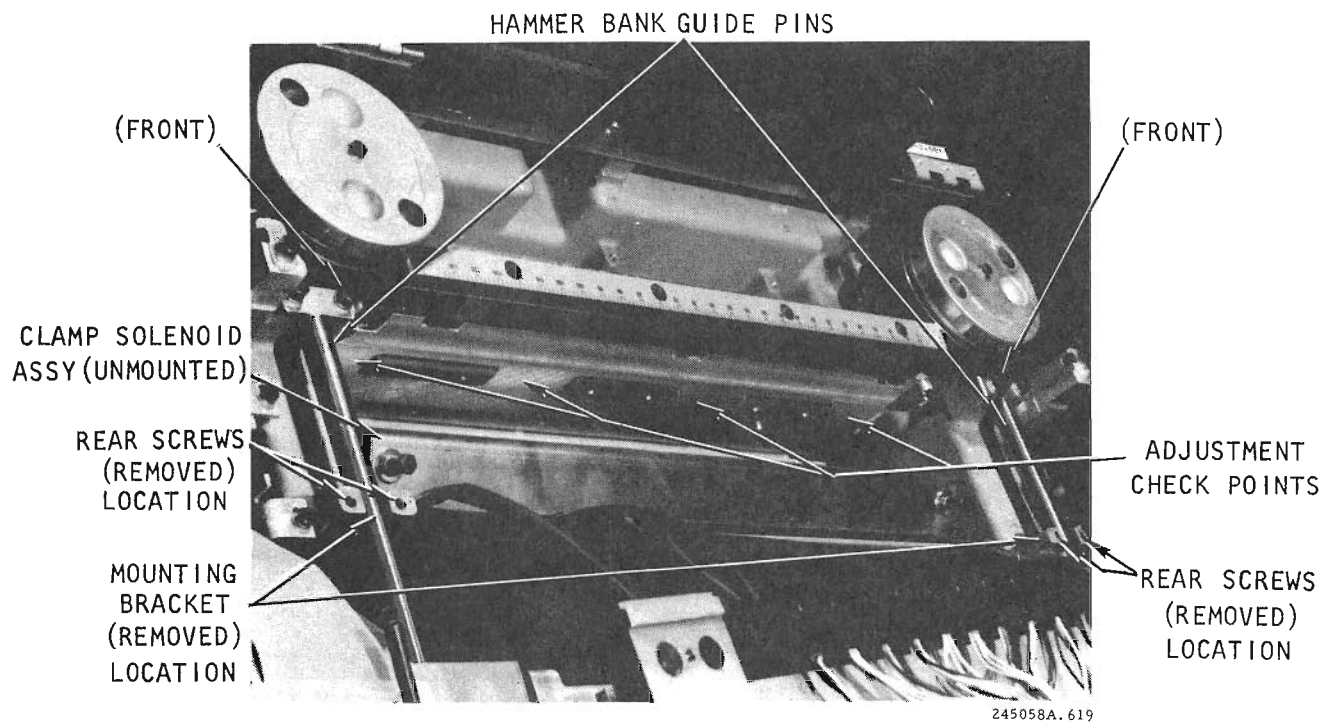

Figure 6-19. Solenoid Adjustment Check Points
- h. Move the hammer bank guide pins approximately 1 inch to the rear. Lift the hammer bank assembly carefully and slide out the clamp solenoid assembly (figure 6-19).
- e. With a 1 mm (.040 in) feeler gauge (hammer bank closed), adjust the solenoid assembly for parallelism to the armature assembly, with the feeler gauge inserted vertically at the points illustrated in figure 6-19.